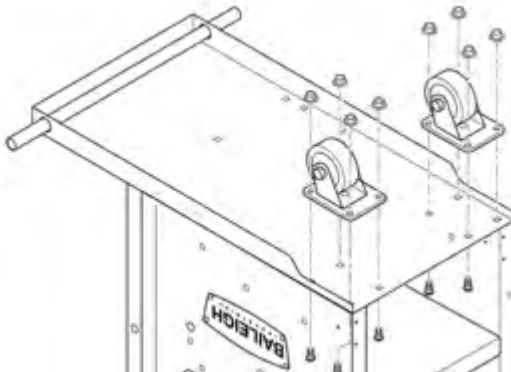
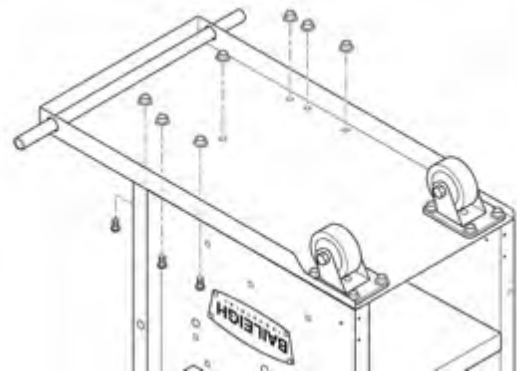

Figure 4-6
Figure 4-7
Turn the Base (item #1) upside down and place on the cart assembly as shown in Figure 4-6. Make sure the Axle-end of the base is located on the Tank-Support-side of the cart assembly.
7. Align the mounting holes on each Side Panel flange with the mounting holes on each side of the Base. Place the Casters (item #3) in the corners of the Base as shown in Figure 4-6. Align the Caster mounting holes with the mounting holes in the Side Panel flange and Base. Attach Casters, Base, and Side Panel using eight M8 x 20 Round-Head Square-Neck Carriage Bolts (item #2) with M8 Flanged Nylock Hex Nuts (item #4), as shown in Figure 4-6. Finish attaching Side Panels to Base using seven M8 x 20 Round-Head Square-Neck Carriage Bolts (item #2) with M8 Flanged Nylock Hex Nuts (item #4), as shown in Figure 4-7. **Fully-tighten all nuts from steps 2 and 3, then fully-tighten all nuts from step 7.**